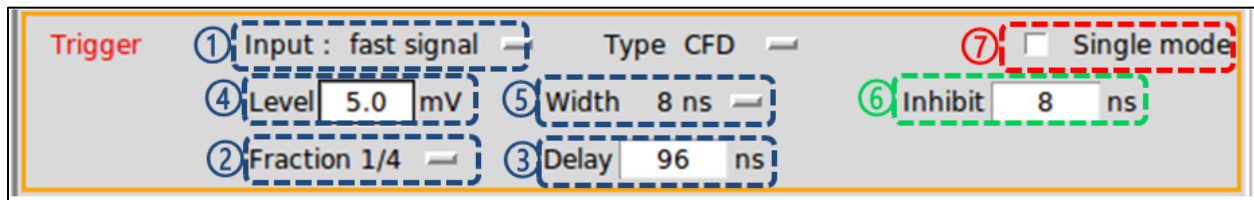

Figure 36: parameters of the CFD discriminator.
When CFD is used, the input signal of the Trigger module (Figure 36 ①) is first shaped by a CFD shaper module, which performs the following operation:
with θ : the delay (Figure 36 ②) multiple of 8ns from 8 ns to 120ns, and f : the fraction 1/2, 1/4 or 1/8 (Figure 36 ③) .
The CFD module detects first 0 crossing, and discriminate the pulse if it also crosses the threshold “Level” (Figure 36 ④) on rising edge and remains above 0 mV this level during at least the duration “Width” (Figure 36 ⑤). The FASTER time-stamp of the event is nevertheless the 0 crossing date.
Such as when using the threshold discriminator, there are the “Inhibit” parameter (Figure 36 ⑥) and the “Single mode button” (Figure 36 ⑦).